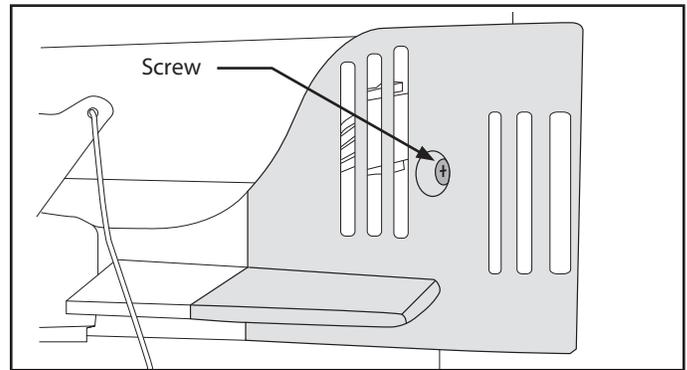

Figure 6-43.
4. Extract screw from air duct. Remove air duct from unit. (See Figure 6-43)